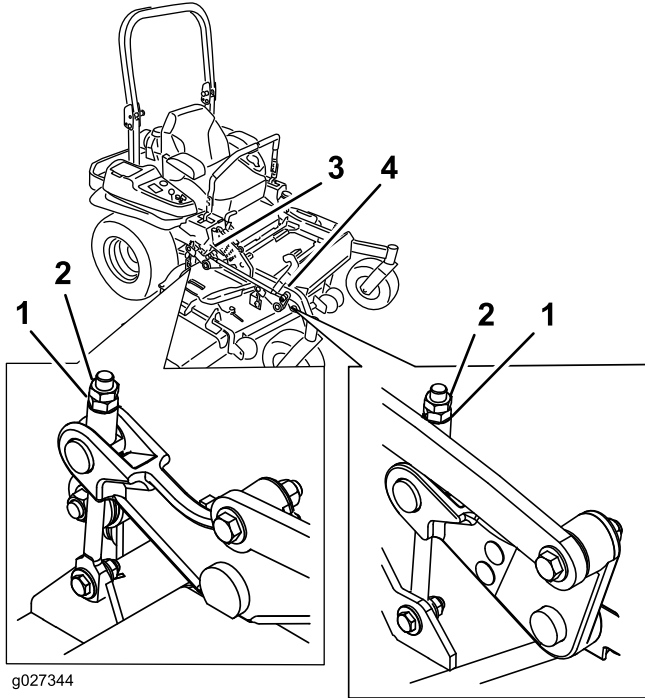

Figure 90
10. Fine-tune the adjustment nut on the front deck lift assembly by turning it (Figure 90).
16. Fine tune the screw adjuster by turning it to get 8.3 mm (3-1/4 inch) height (Figure 90).